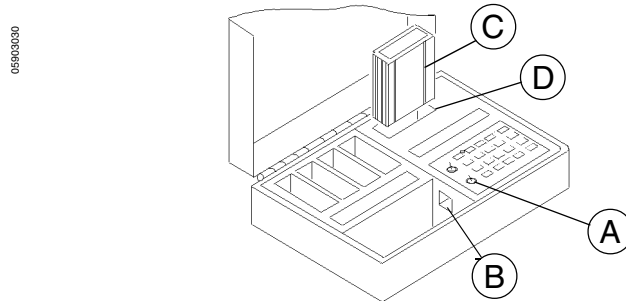

Figure 5: Universal Test Set
1. Disconnect all loads by (1) placing circuit breaker in OPEN position or (2) disconnecting all loads downstream from circuit breaker under test.
3. Place test set on a flat surface no more than five feet from circuit breaker to be tested. Open case fully to lock cover into the open position (fig.5).
7. See table on page 4. Select appropriate circuit breaker test module (C, fig. 5) and insert into module receptacle (D).